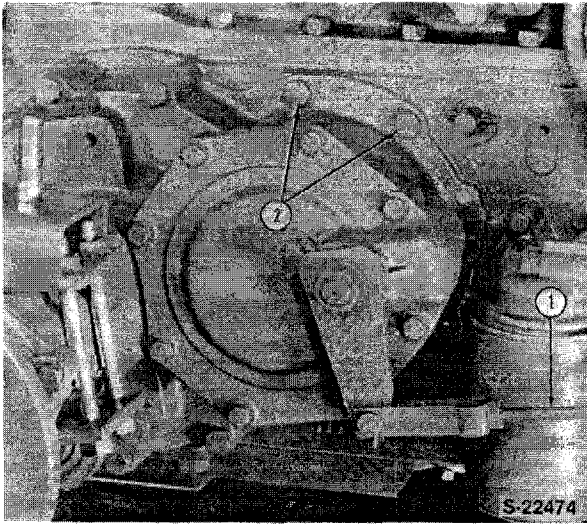

Figure 11
4. Disconnect the brake control rod from the brake cover lever, Figure 11.